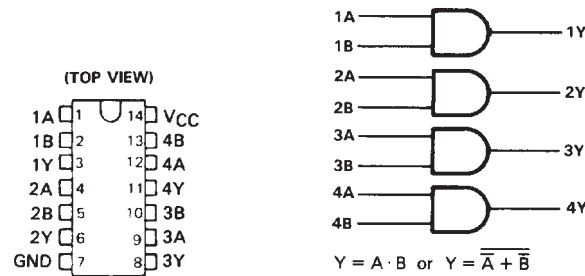
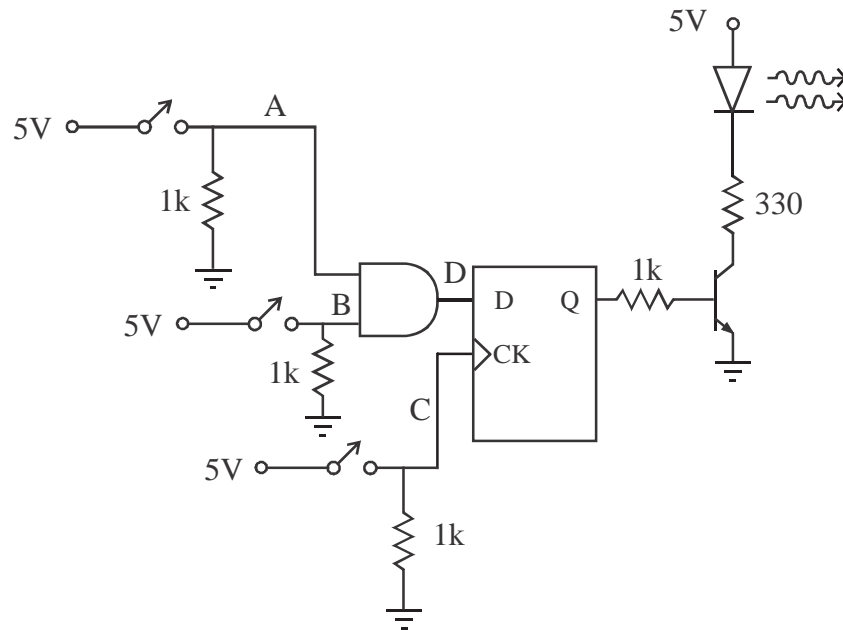
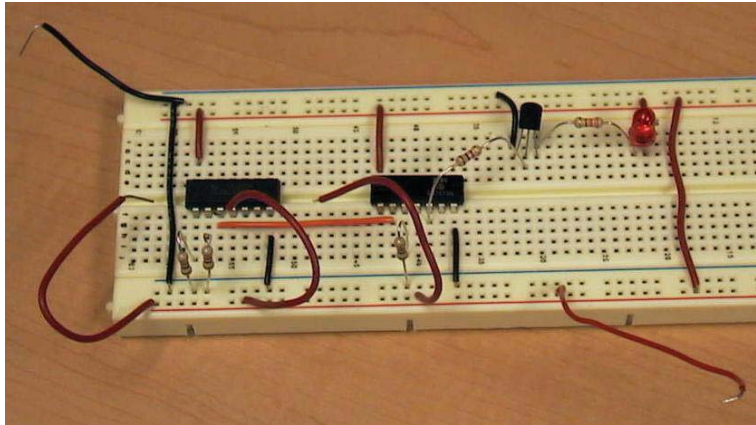
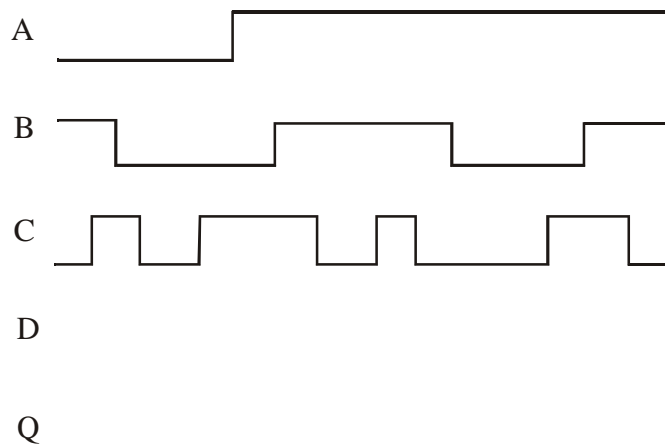

Figure 7.5 Pin-out and schematic symbol diagrams for the 7408
Figure 7.8 Circuit Schematic with Switches, Logic Gate, and Flip-flop
Figure 7.9 Photograph of the Partially-Completed Circuit
Figure 7.10 Positive-Edge-Triggered Circuit Timing Diagram
Figures 7.5 through 7.7 show pin-out and schematic diagrams from the datasheets for various TTL devices used in this exercise. Note that the 7408 includes four AND gates numbered 1 through 4 (e.g.,  $1Y = 1A \cdot 1B$ ). The 7474 includes two positive edge-triggered data flip-flops, and the 7475 includes four positive level-triggered data flip-flops (AKA "data latches"). **Note that the 7474 has preset and clear features. Because these features are active low, these pin should be connected to 5V to deactivate them.**
- (1) Using the datasheet pin-out diagrams (Figures 7.5 through 7.7), draw a complete and detailed wiring diagram (showing all connections and all pin numbers) for the circuit schematic shown in Figure 7.8, using a 7474 positive edge-triggered flip-flop. Carefully **label and number all pins that are used on each IC, including power and ground**. You might find Figure 7.9 helpful as a reference because it shows a photograph of a partially-completed circuit.
**Note - It is good practice to include a 0.1  $\mu\text{F}$  capacitor across the power and ground pins of each IC (not shown in Figure 7.8 or Figure 7.9).** This helps filter out transients that could occur on the power and ground lines during switching. The capacitors are especially important in more complicated circuits where a single power supply may be providing reference voltages and switched current to numerous components.
- (2) Using the detailed wiring diagram you created in Step 1, construct the circuit. Again, Figure 7.9 can be helpful as a reference because it shows the partially completed circuit; although, your main reference should be the wiring diagram you created in Step 1.
For the positive-edge-triggered circuit (Figure 7.8), assuming bounce occurs during every release of button  $C$ , draw a timing diagram showing how the output ( $Q$ ) would respond for the  $A$ ,  $B$ , and  $C$  traces shown in Figure 7.10.
For the timing diagram inputs shown in Figures 7.10 and 7.12, would you expect to notice any changes in the LED response if there were switch bounce during both the presses and releases of switches *A* and *B* (but not *C*)? Why or why not?